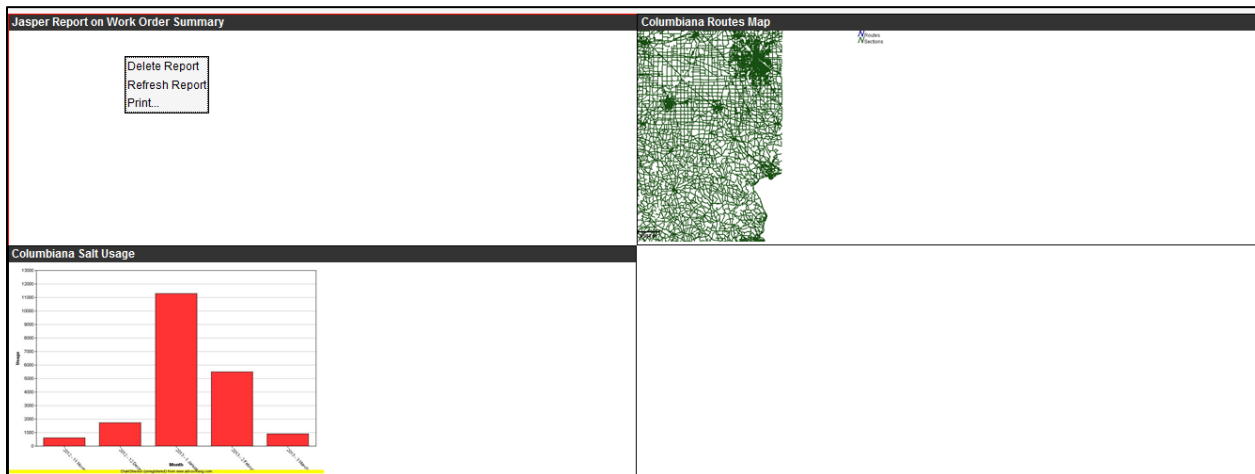

Figure 3-8. Dashboard Reports Example
3. To view the Dashboard shortcut, select the **Home** icon in the left gutter area of the window to see the user's enabled Dashboard reports in the current module (Figure 3-8).
4. To resize or reposition a Dashboard report (Figure 3-8), the user may: